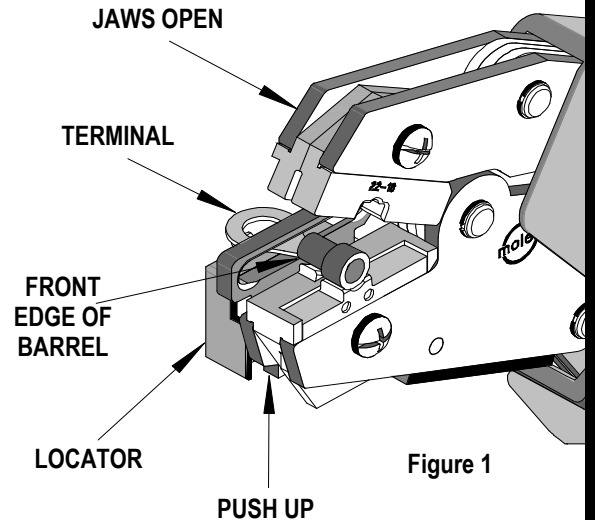

Figure 1
1. Push up on the locator blade and position the terminal with the barrel facing up into the color-coded nest with front edge of the barrel against the locator. See Figure 1. Release the locator blade to hold the terminal in position.